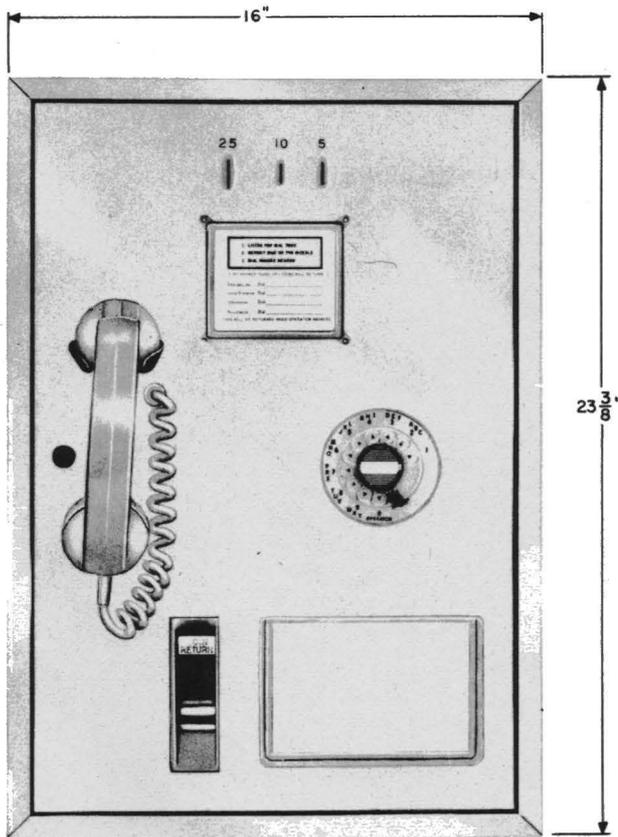
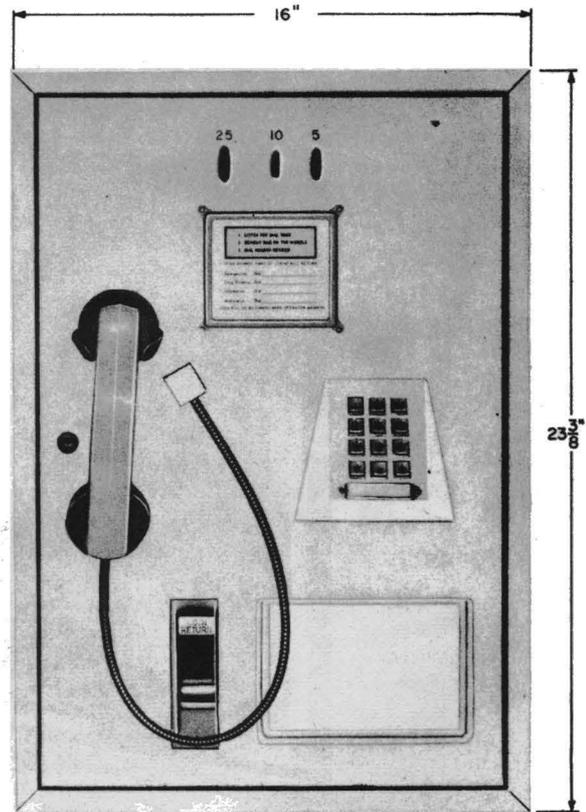
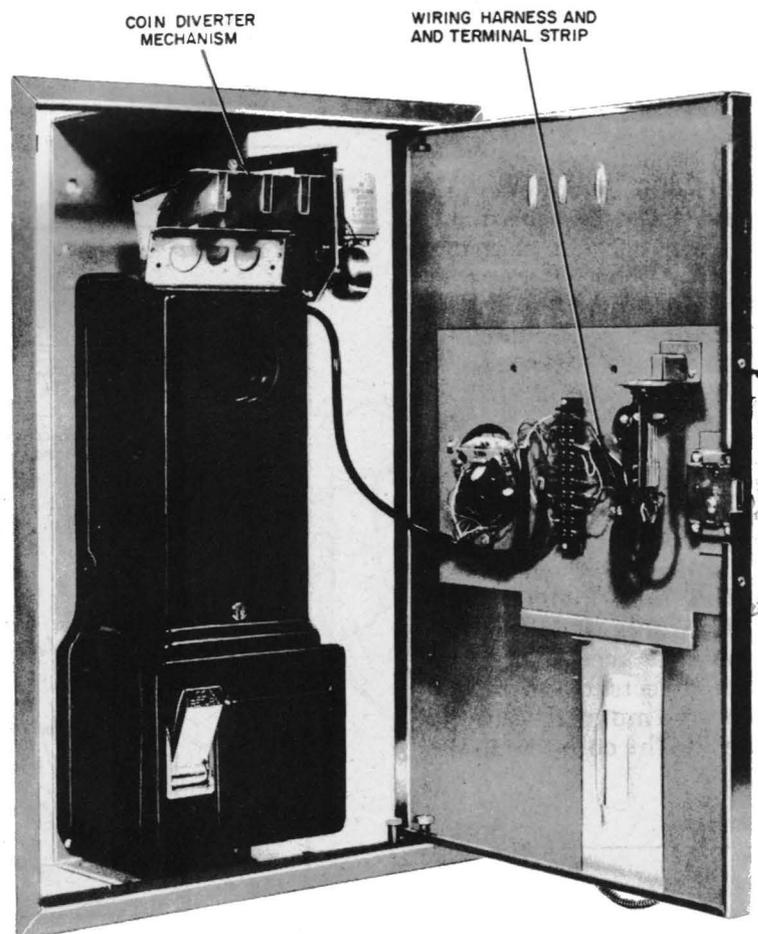

Figure 1. Panel Coin Telephone - Dial Equipped.
Figure 2. Panel Coin Telephone - Touch Calling Unit Equipped.
Figure 3. Coin Telephone and Panel Mounted Components.
2.01 The panel assembly has a stainless steel hinged front cover upon which are mounted a hookswitch, handset, handset cord, two card brackets, and either a dial (see Figure 1) or Touch Calling unit (see Figure 2). Coin slots in the panel assembly door provide access to a coin diverter mechanism which directs coins to the coin chute of the coin telephone mounted directly behind the door (see Figure 3). The coin telephone
is not equipped with a hookswitch, dial (or Touch Calling unit), handset, or coin gauge. A wiring harness and 10-terminal terminal strip are used to connect the coin telephone to the components mounted on the panel assembly door (see Figure 3). A standard coin telephone upper housing key operates the lock on the door. The handset, dial, and cardholders are available in either black, white, or blue. The panel assembly is 23-3/8 inches high and 16 inches wide.